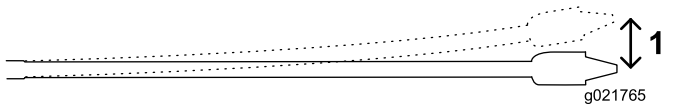

Figure 7
The 3 m (10 ft) pipes used on this machine can flex to an 8% pitch over the length of the pipe; this equates to a bend of no more than 20 cm (8 inches) off of a straight path (Figure 7).
- You insert the first 3 m (10 ft) of drill bit/pipe into the ground with no steering. The end of the drill bit will be 76 cm (30 inches) deep (Figure 7).